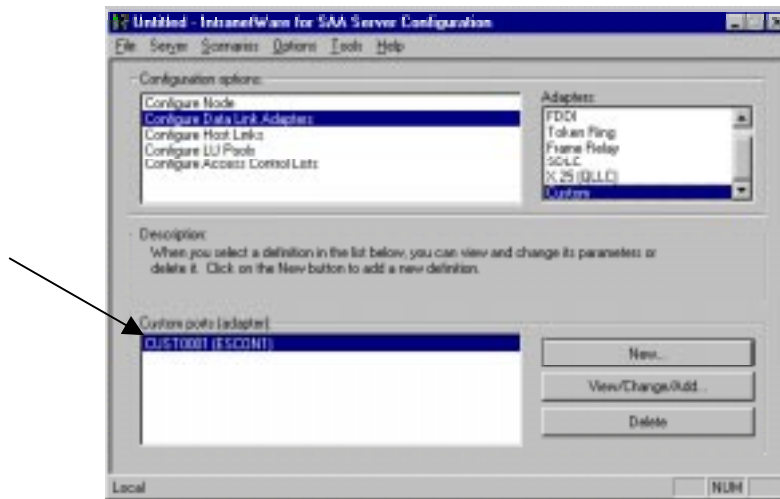

Figure 16-20. ESCON Adapter in SAA
1. Begin by verifying that the adapter is defined in the configuration. In the NetWare for SAA Configuration program, click “**Configure Data Link Adapters**” and then “**Custom**”. A custom adapter should be defined (Figure 16-20) for each host link (PU) that you have defined.